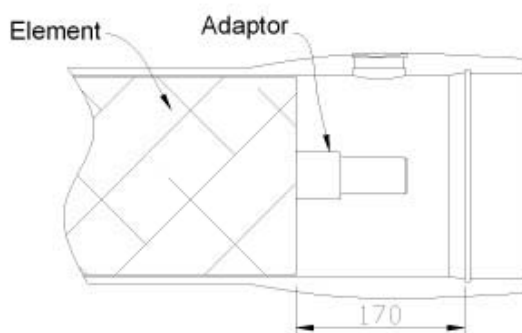

Figure 5
10. When the final element is installed, push the element stack forward until the distance between the first (downstream) element and retaining ring groove is about 170 mm. (Figure 5.)